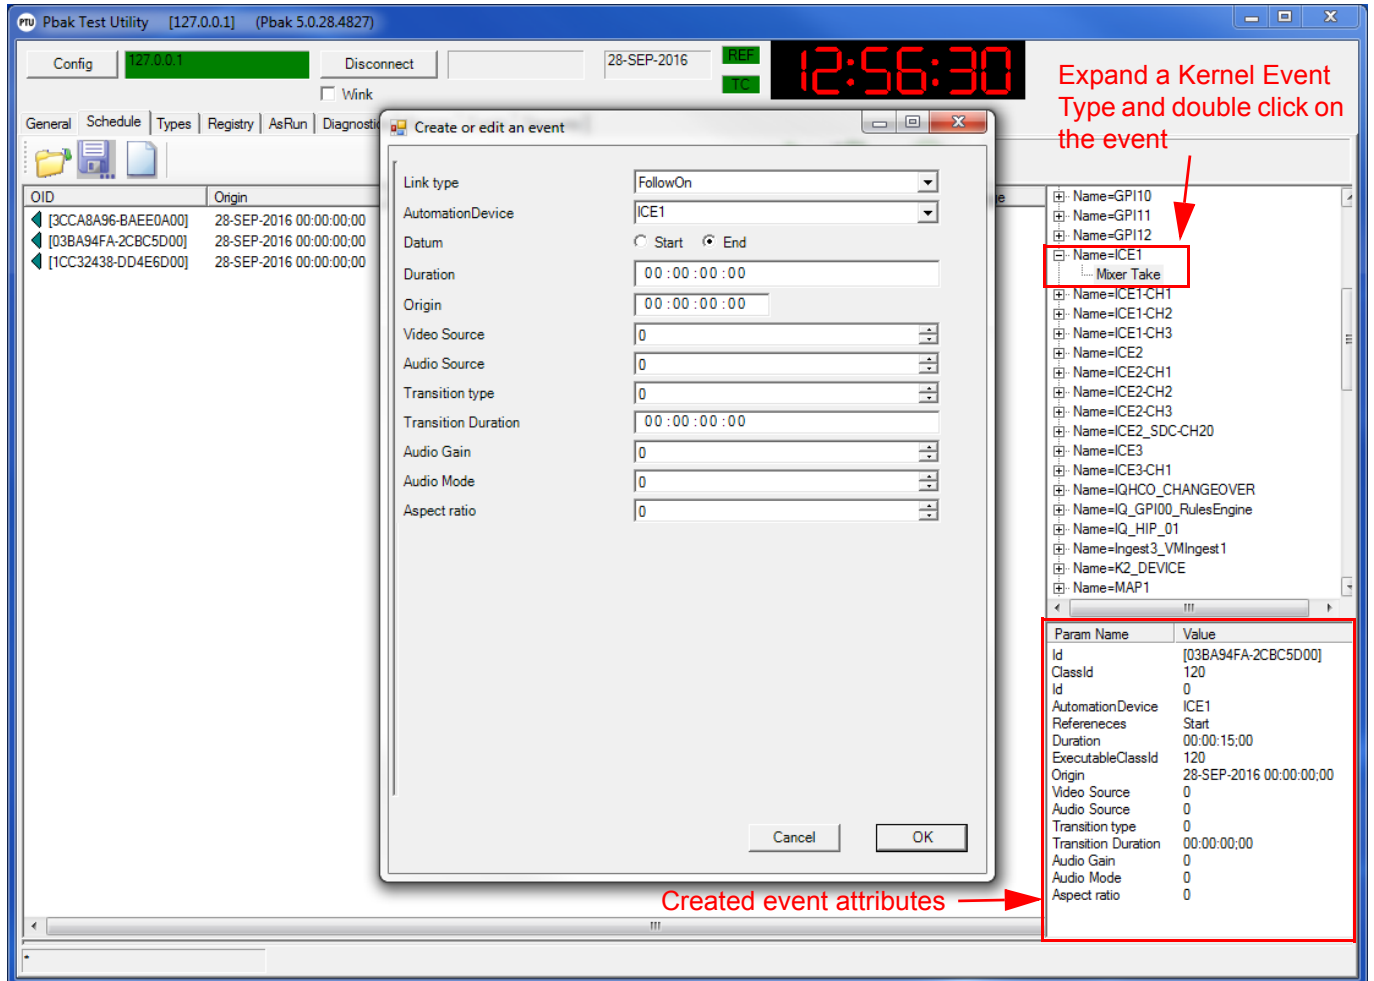

Figure 104 Pbak Test Utility - Create a Kernel Event
1. From the list in the upper right pane of the Pbak Test Utility window, expand a Kernel Event Type and double click on the required event - the Create or Edit an Event window is displayed (Figure 104).